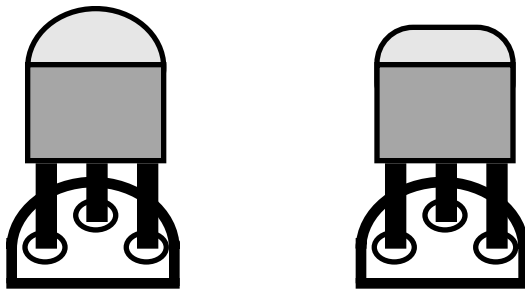

Figure 5-4
□ Locate transistor Q1 (type 2N4124), which has a small, 3-lead TO-92 package. Q1 and other TO-92 devices may have either of the two shapes shown in Figure 5-4. The right-hand illustration shows a "modified TO-92" package, which may be labeled on either the front or back side. The large flat side of each device will be aligned with the flat side of its component outline.